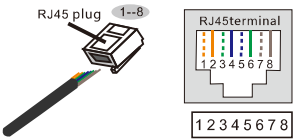

Figure 5.35 Strip the insulation layer and connect to RJ45 plug
2.Use the network wire stripper to strip the insulation layer of the communication cable. According to the standard line sequence of figure 5.35 connect the wire to the plug of RJ45, and then use a network cable crimping tool to make it tight.